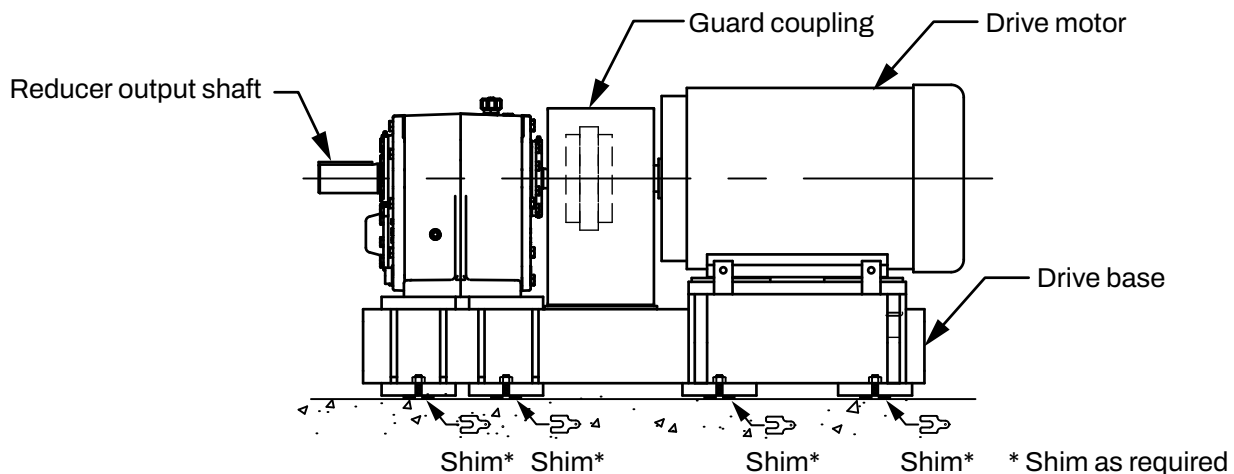

Figure 3 - Typical Base Mounting
- Packing shims are placed between the top of the foundation and the baseplate until the unit is 1" to 1.5" (25 to 38 mm) clear of the foundation. Adjust the packing or shims until a level placed on the baseplate indicates the base is level. See Figure 3 for typical base mounting.